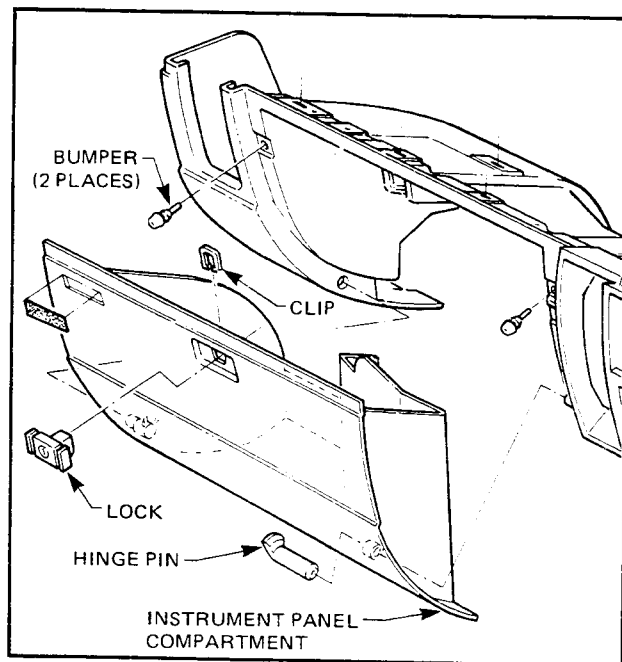

Figure 1A-15
5. With instrument panel compartment open and with the blade of a screwdriver located between head of hinge pin and right hand compartment side, prise out hinge pin compartment (refer Fig. 1A-15) then remove compartment.
8. Remove touch switch control panel and electrical connector (refer Fig. 1A-10).
9. Remove screws securing the centre nozzle and instrument location frame assembly (refer Fig. 1A-10) disengage electrical connectors from front end wiring harness, then remove frame assembly.